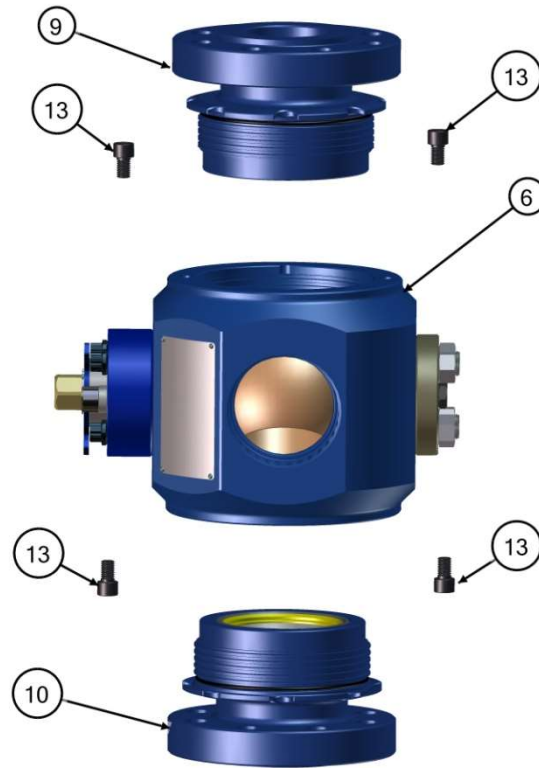

FIGURE 21
- 2) Turn the tailpiece (9) (**FIGURE 21**) so the flange is upward.
- 3) Lubricate the threads and seal surface on the tailpiece and the main body (6).